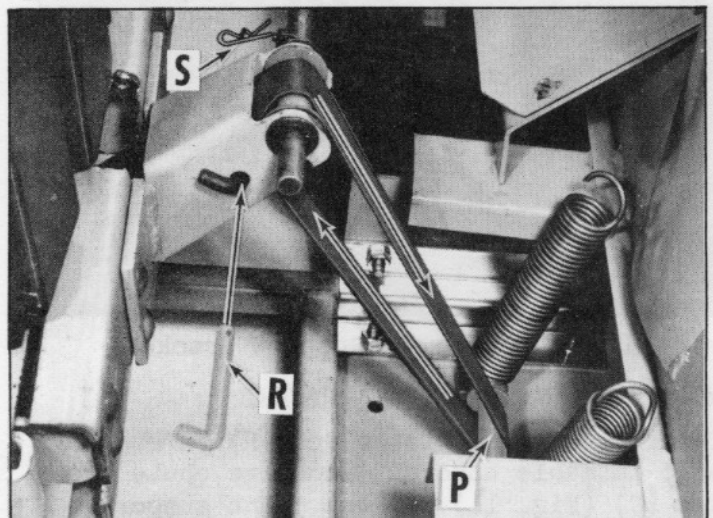

Figure 13. Lift Strap
Check to make sure there is no twist in strap. Thread strap under lifting rod (P) on header; loop back as shown in Fig. 13. Slide clevis pin (R) through lift yoke and through loop in strap. Secure with hair pin cotters.